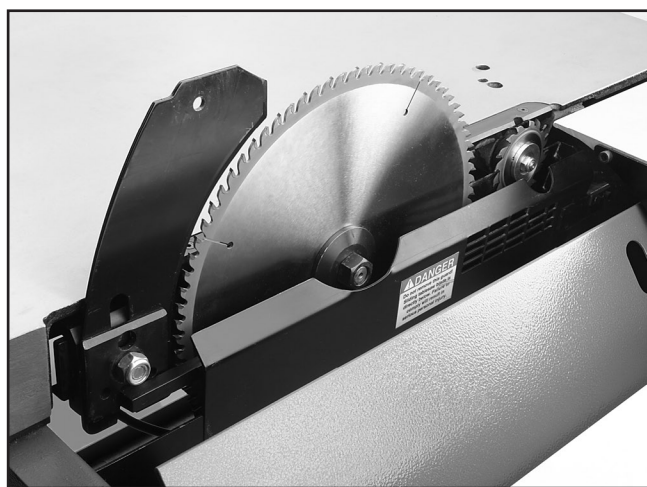

Figure 48. Internal blade guard exposed.
3. Slide the table all the way forward to access the blade arbor, loosen the bolt securing the lower blade guard, slide the bolt up, and pull open the lower blade guard shown in **Figure 48**.